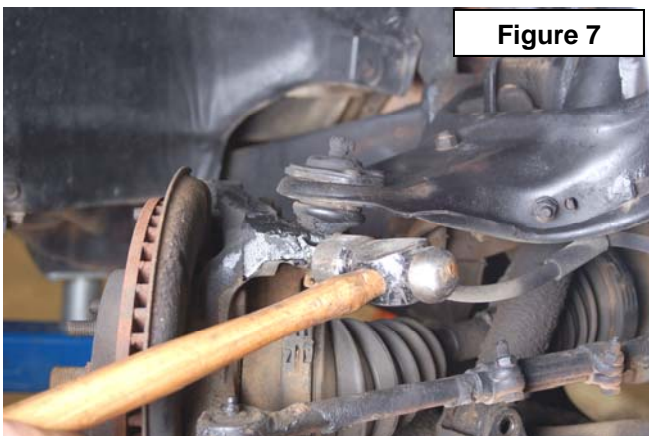

**Figure 5**
5. Remove the upper control arm bolts using a 18 mm wrench as shown in **Figure 5**. Retain hardware for reuse.